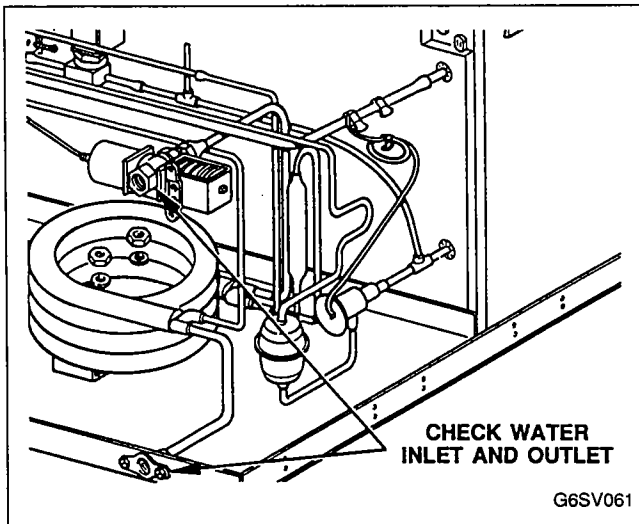

FIGURE 41. CONDENSER LEAK CHECK POINTS
7. Check condenser water inlet and outlet with electronic leak detector. If a leak is detected, replace condenser. See Figure 41.